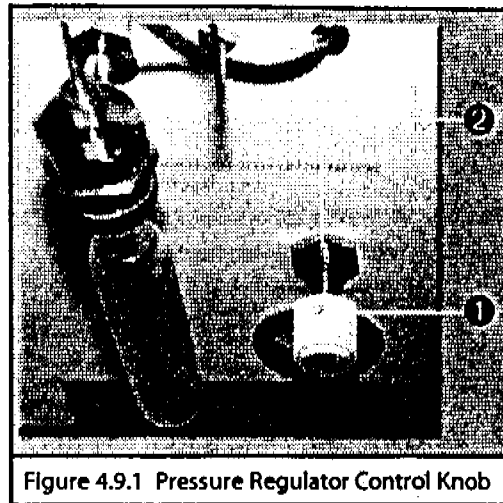

Figure 4.9.1 Pressure Regulator Control Knob
5. Using a 1/16" Allen wrench, loosen the set screw on the knurled pressure regulator control knob (❶, Figure 4.9.1) on the front of the sample module. Remove the knob and set aside.
7. Using a 3/4" wrench, remove the nut on the front of the pressure regulator (❷, Figure 4.9.1) and set aside.